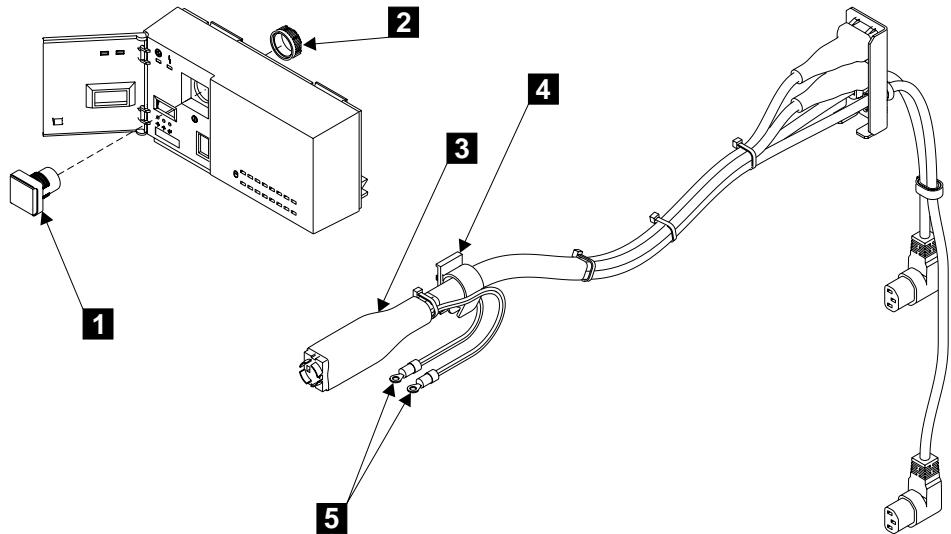

Figure 115. Removing the Power Cable Assembly
- Step 3. Refer to Figure 115.